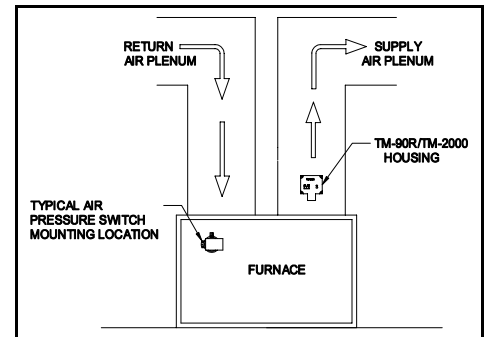

Figure 1
1. Locate a suitable mounting position for the air pressure switch. This should be on the furnace enclosure or on a solid structure close to the furnace. The switch must be mounted such that the diaphragm is vertical. Mark the four mounting screw holes using the switch mounting plate as a template. The screw holes can be pre-drilled using a 1/8" or smaller drill bit. Use care when drilling any holes to avoid damaging any internal structures. (See Figure 1)
2. Mount the air pressure switch at the selected location using four of the six sheet metal screws supplied with this kit. (See Figure 1)